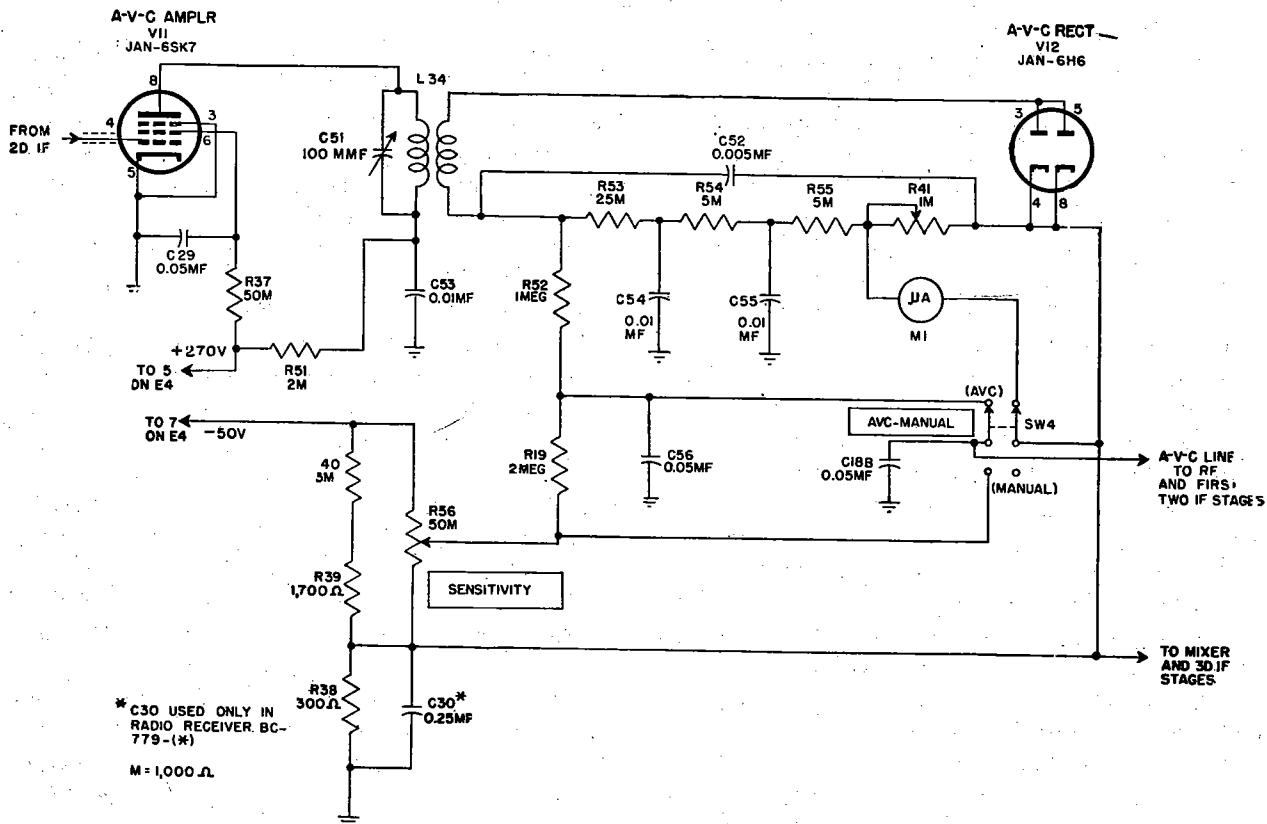

Figure 31. Radio Receiver BC-779-B, functional diagram of a-v-c stages.
a. *MIXER TUBE JAN-6L7.* For simplicity, capacitor C71, main tuning ganged capacitor C1C, and band spread ganged capacitor C2C are represented as a single variable capacitor C across the inductance trimmed secondary of r-f transformer L18. Signal voltages across C are applied through 600-mmf capacitor C11 to signal grid G1 (top cap) of pentagrid mixer Tube JAN-6L7. Fixed bias from the voltage divider (fig. 31) is applied through a filter circuit (10,000-ohm resistor R10 and 0.01-mf capacitor C12) and 500,000-ohm grid resistor R9 to the signal grid. Screen grid G2 and G4 (pin 4) forms a screen about injection grid G3 (pin 5), and the h-f oscillator output is coupled through 95-mmf capacitor C13 to the injection grid. Since the screen grid shields the signal and injection grids from one another, the tube electron stream is modulated independently by the r-f and oscillator signals. Heterodyne action produces sum and difference frequencies in the mixer output. The primary of transformer T1 is tuned by C21 to the 465-kc difference frequency to which the i-f amplifier is also tuned. The i-f voltage across the secondary winding of transformer T1 is applied to the crystal filter.
65. A-V-C Circuit (fig. 31)
and to the control grid (pin 4) of the a-v-c amplifier stage V11 (fig. 31). V7 and V11 have a common grid circuit, including fixed bias. The suppressor and cathode of V11 are grounded; screen voltage is applied to pin 6 through 50,000-ohm series-dropping resistor R37; and the screen is bypassed by 0.05-mf capacitor C29. Plate (pin 8) voltage is applied through 2,000-ohm filter resistor R51 and the primary of transformer L34. The primary of L34 is tuned to 465 kc by 100-mmF capacitor C51, and capacitor C53 (0.01-mf) bypasses high frequencies to ground. The transformer secondary is untuned.